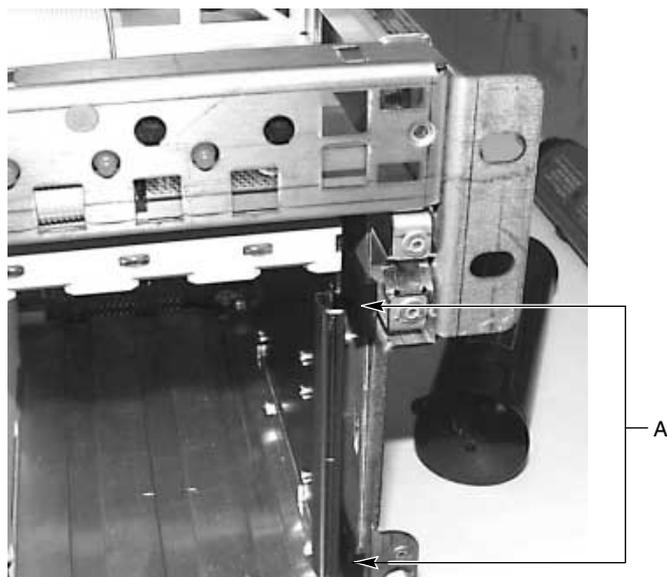

Figure 2-9 Hard Drive Bay Tabs
6. With a flat head screwdriver, press the two tabs inward on one side. Repeat this step for the two tabs on the other side. The two tabs are noted by “A” in Figure 2-9.